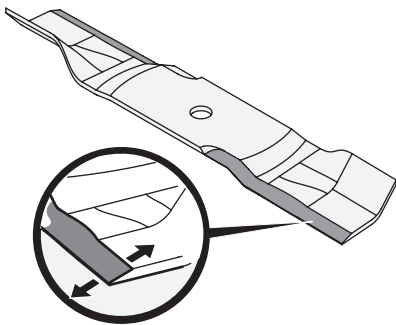

Figure 64
3. To properly sharpen the cutting blades, remove equal amounts of metal from both ends of the blades along the cutting edges, parallel to the trailing edge, at a 25°-30° angle. Always grind each cutting blade edge equally to maintain proper blade balance (Figure 64).